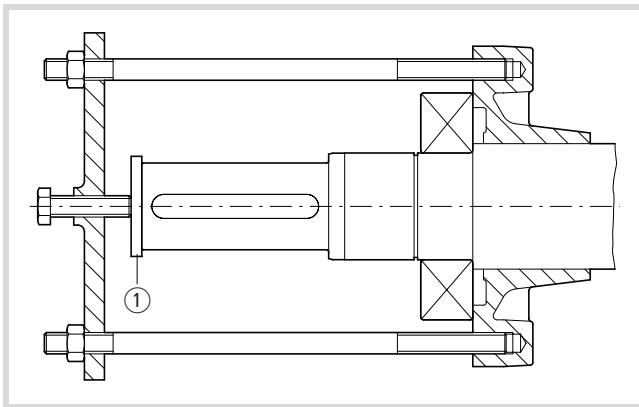

Figure 11: Removing the internal bearing cover and the roller bearing
- Remove the internal DE (1.07) or NDE (2.05) bearing cover together with the roller bearing from the shaft (→ Fig. 11).